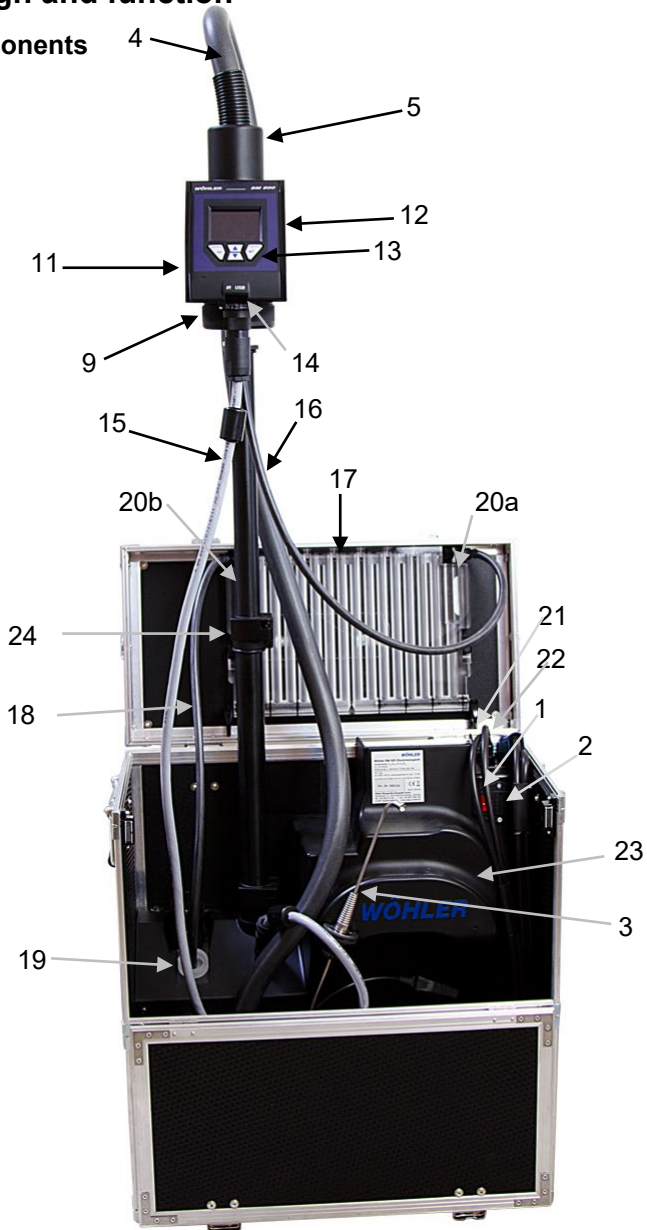
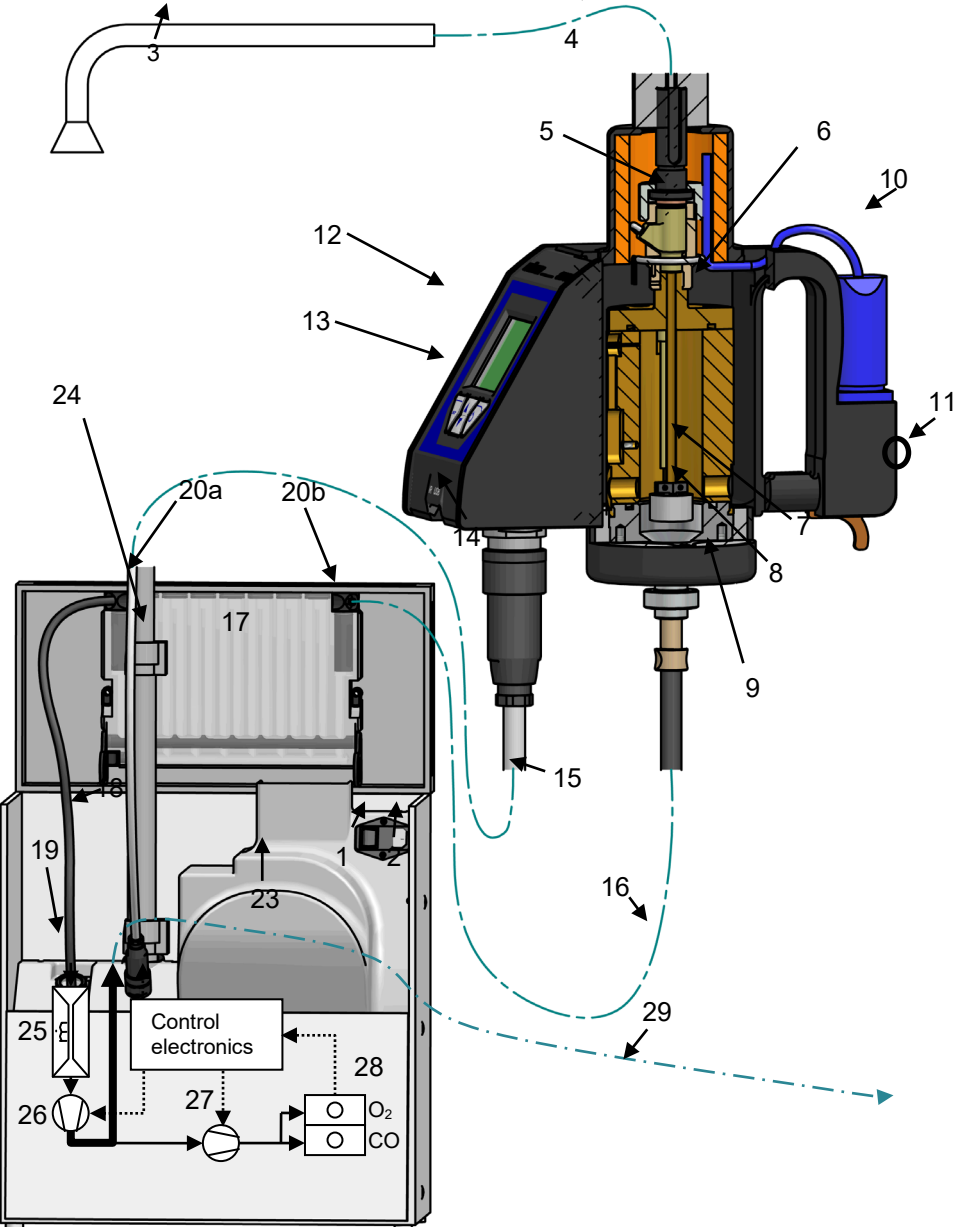

Fig. 1: Analyser components
Fig. 3: Schematic overview of gas and signal paths
** The components listed below are hidden from view inside the analyser in the photo (Fig. 1); however, they are depicted in the drawing in Fig. 3. The components 6, 7, 8 and 10 are located in or behind the control unit.*
Components 21 and 22 are visible in Fig. 1, but they are not included in this drawing (Fig. 3).
Description (refer to Figures 1 and 3)
Proceed as follows to set up the analyser (see Fig. 1)
- Place the flue gas exhaust hose (29) outside of the case to allow flue gas to exhaust out of the analyser (see Fig. 3).